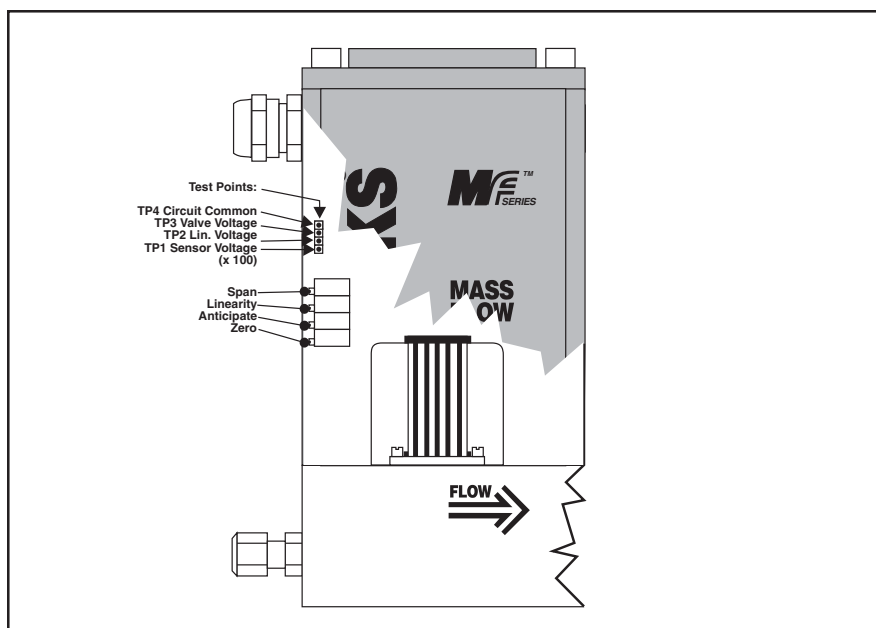

Figure 3-4 Adjustment Potentiometer Location
To check zero, always mount the instrument in its final configuration and allow a minimum of forty minutes for the temperature of the instrument and its environment to stabilize. Using a suitable voltmeter or current meter, check the instrument output signal. If it differs from the factory setting, adjust it by removing the lower pot hole plug which is located closest to the instrument body. Adjust the zero potentiometer (refer to Figure 3-4) until the desired output signal is obtained.
- c. Connect the DVM positive lead to the 0-5 V signal output TB-1, Terminal 5, and the negative lead to signal common (Terminal 4). Adjust the zero potentiometer for an output of 0 mV \pm 2mV (refer to Figures 3-4 and 3-5 for test point and potentiometer locations).